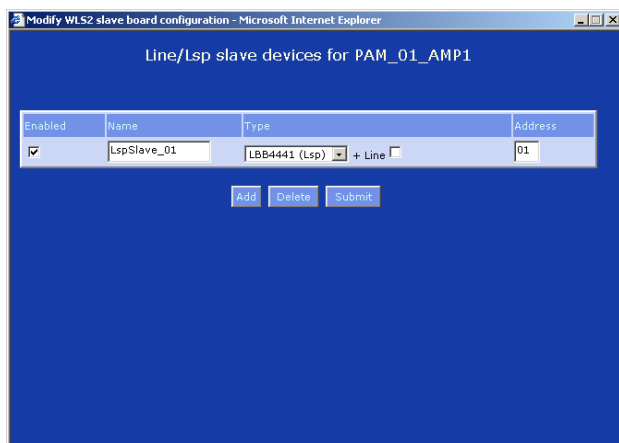

figure 34.16: Add slave device, step 4
- 4 Click the *OK* button to add the slave device to the audio output of the power amplifier. A screen similar to the one in figure 34.16 appears.